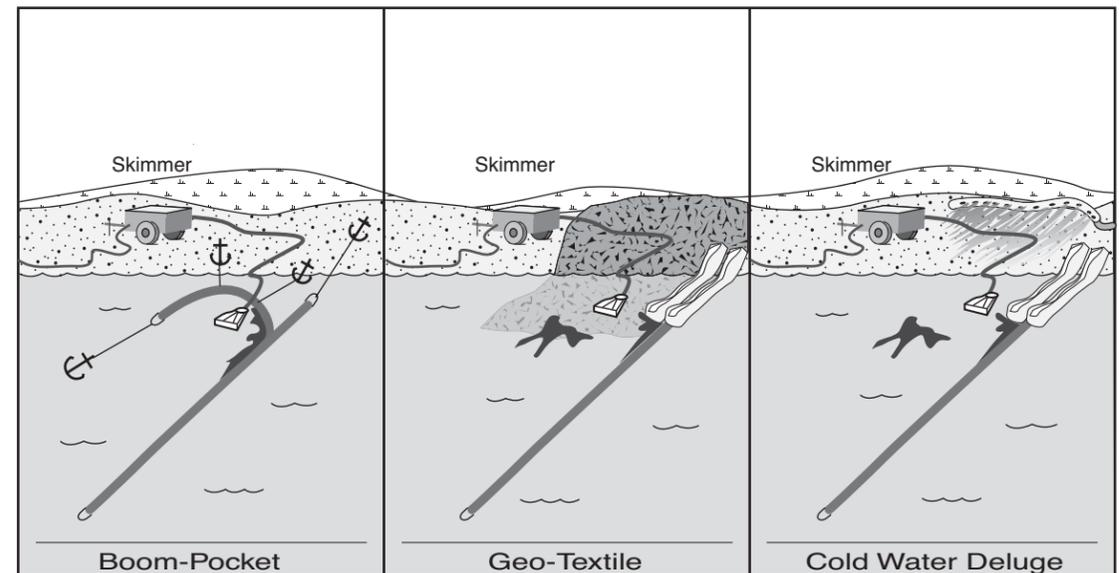

Figure G-2-15. Methods to keep oil from contaminating collection beaches.
- See Figure G-2-15 for methods to keep oil from contaminating beaches at collection points.
- Use one of the methods shown in Figure G-2-15 to protect the collection site from contamination.